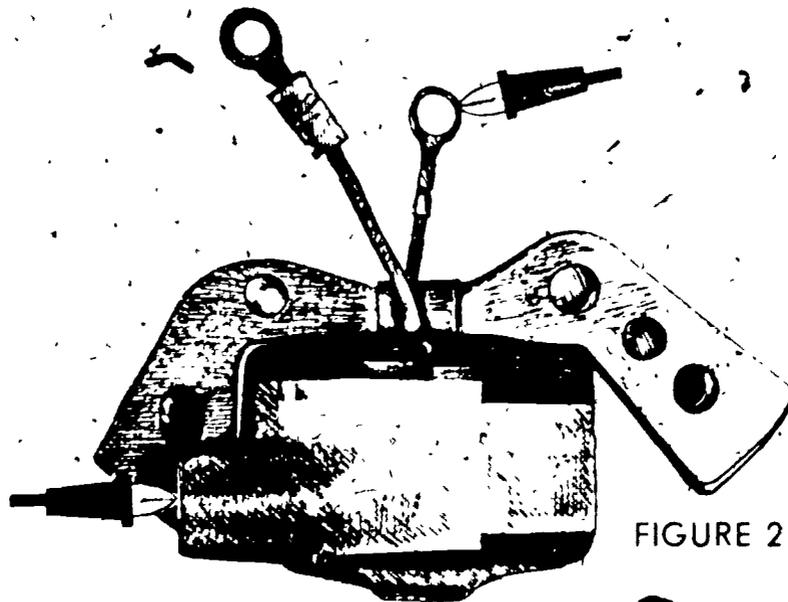

FIGURE 2
- a. Following instructions for tester, connect leads (Figure 2)